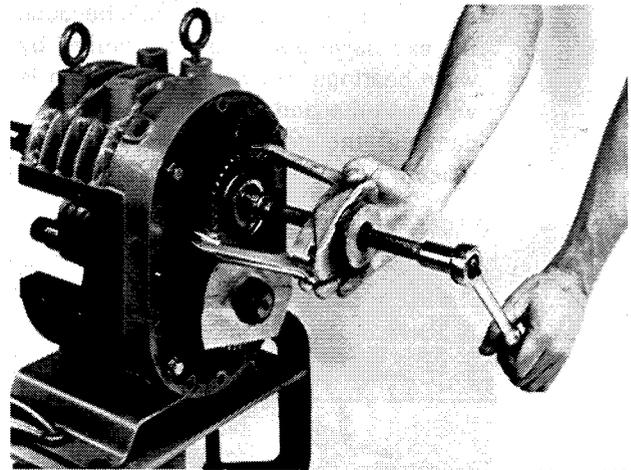

FIGURE 15
- s. Remove the flexlock nut (44) from the gear end of the drive rotor shaft.
- t. Remove the timing gear from the drive rotor using the gear puller (see Fig. 15). Make sure oil flinger (29) is turned so as not to interfere with gear being removed from the drive shaft.